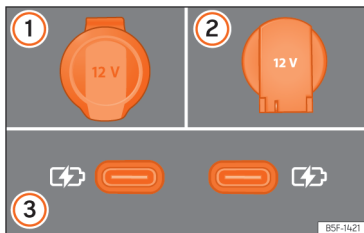

Fig. 162 Vehicle 12 volt socket.
»» Fig. 162
Depending on the equipment and the country, the vehicle may also have USB connections **exclusively for charging or as a power socket** »» Fig. 162 ③.